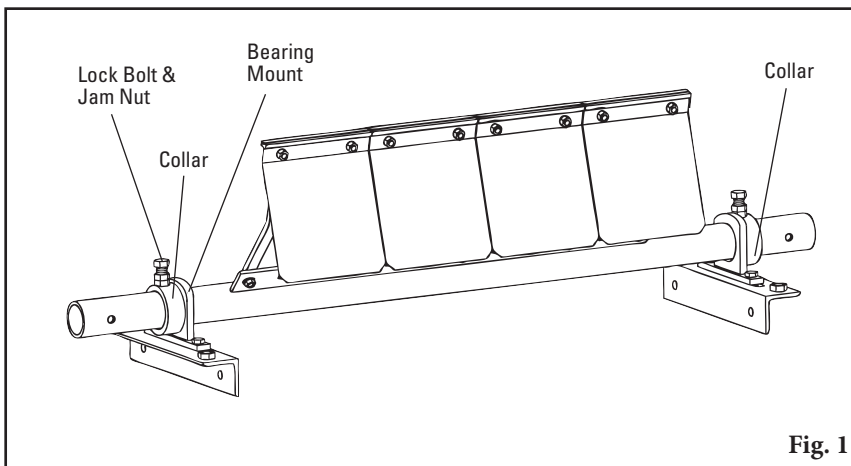

Fig. 1
- 8a. **Install the Tensioning System.** With the pole rotated up so that all the tips contact the head pulley, slide a collar on each end of the pole. Position the collars tight against the bearing mounts and tighten the lock bolt and jam nut on each collar (Fig. 1).